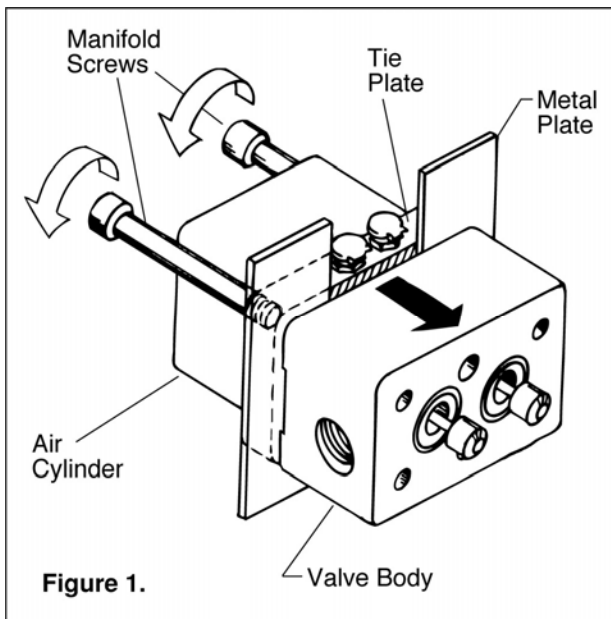

Figure 1.
1. Remove the manifold and seat plate (8). Pry bar slots are provided.
2. Remove the air cylinder bolts (2) and wiggle the air cylinder apart. If the assembly is frozen, use the pry bar slots on the valve body (7) to separate the valve body (7) from the tie plate (5). Insert flat pieces of metal between the valve body and the tie plate as per Figure 1. Thread the manifold screws into the back of the tie plate and push the valve body apart. Apply uniform pressure to prevent the body from cocking and bending the spool valves (75).